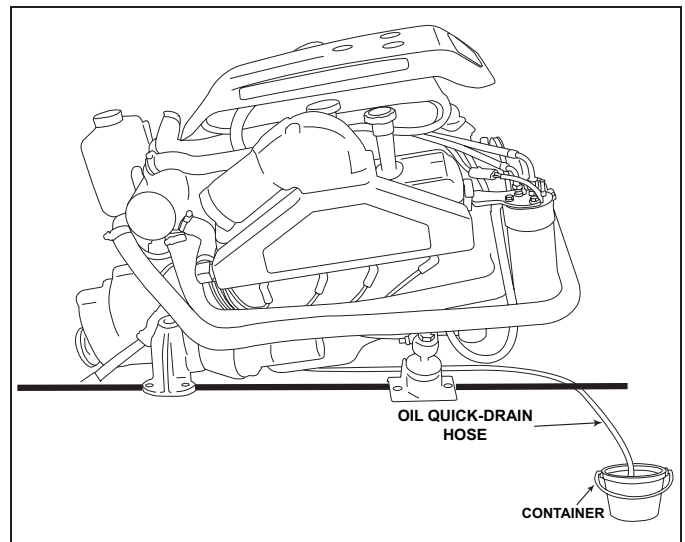

Figure 11-21 Engine Oil Removal
1. With the engine at normal operating temperature, locate the oil pan quick drain hose and thread the hose through the boat's drain plug hole. (Figure 11-21). Remove the cap from the end of the quick-drain hose and insert the discharge hose into a suitable container. Allow the oil from the engine to drain until the crankcase is empty. Reinstall the cap onto the quick-drain hose and pull the hose back through the drain and secure the hose at the engine.